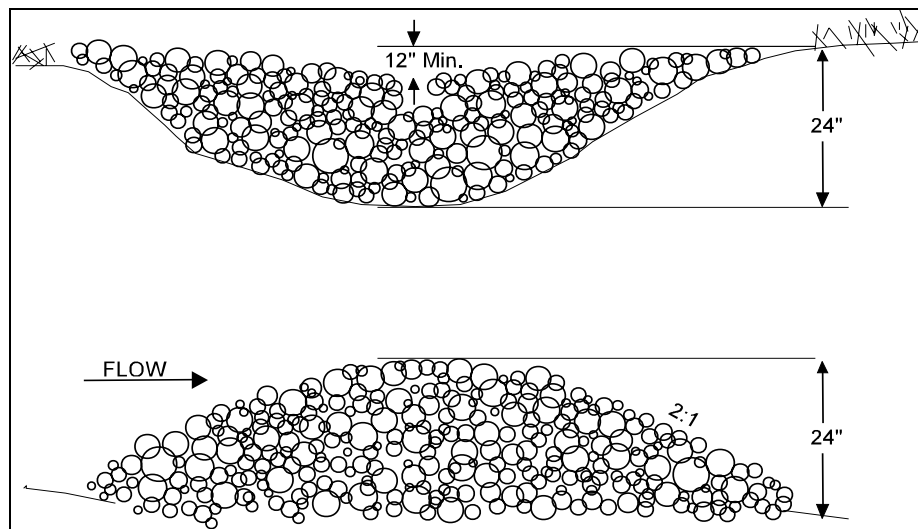
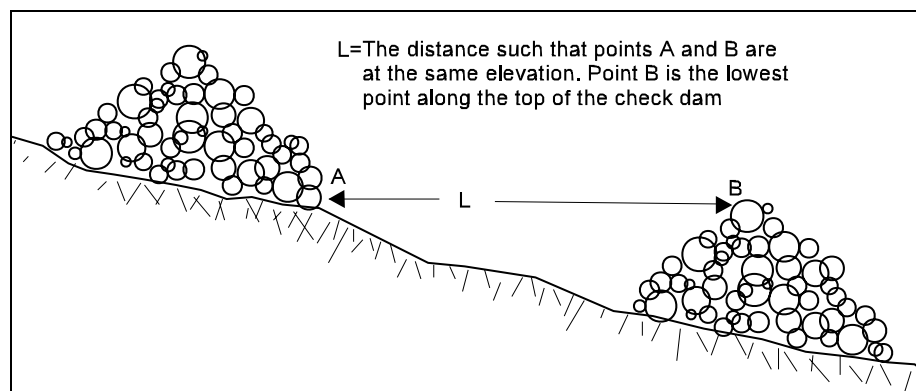

Figure 24. Cross Sectional Views of a Check Dam.
Figure 25. Check Dam Spacing.
- **Check Dams** - Check dams (see Figure 24), generally constructed of rock, may be necessary to reduce the velocity of flow in roadside ditches or in other concentrated flow areas. Check dams can reduce the potential for erosion and protect vegetation in the early stages of growth. The primary purpose of check dams is to reduce water flow to non-erosive velocities. Refer to Figure 25 for proper spacing of check dams. For rock based check dams, construct the check dam using rock having a range of sizes from 3 to 12 inches in diameter (average of 6 inches). The key is that the rock stays in place to withstand strong concentrated runoff flows.